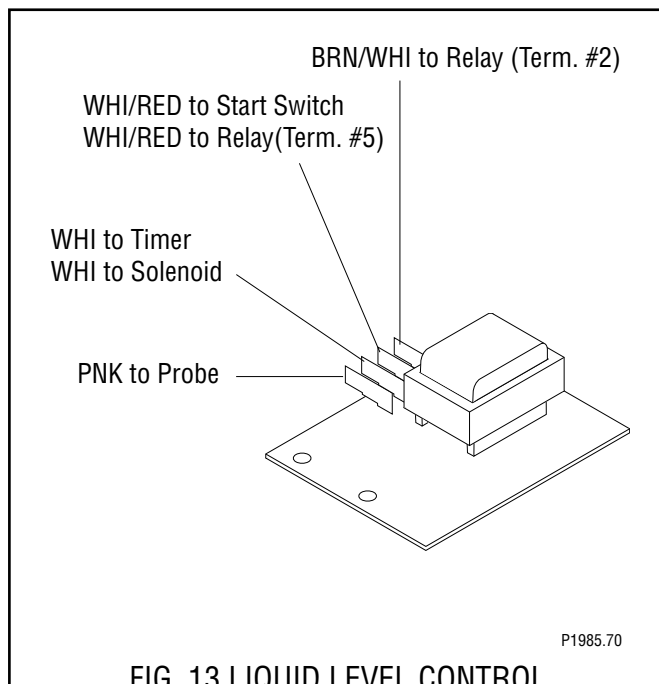

FIG. 13 LIQUID LEVEL CONTROL
4. Refer to FIG. 13 when reconnecting the wires.